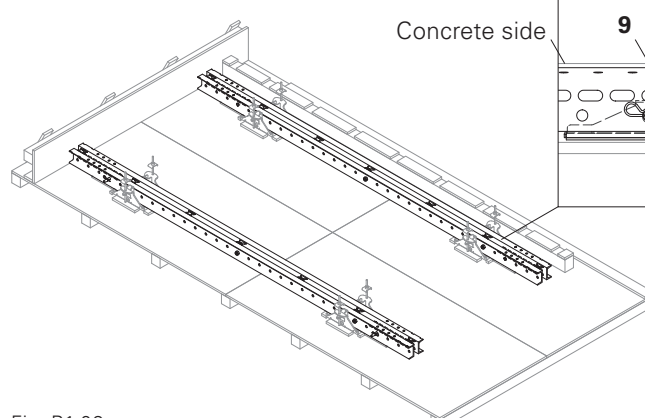

Fig. B1.09
4. Position both Steel Walers SRU U120 (6) on the Table Head Middle Part VD (3) and align exactly with the stopping boards. (Fig. B1.09)